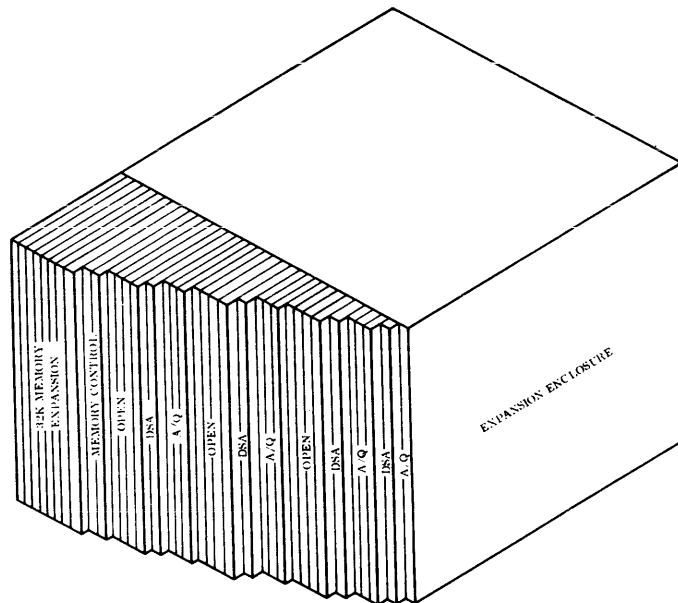

Figure 1-2. Module Allocation of Typical 1783 Expansion Enclosure
The 1783-1 is an enclosure to accommodate memory increment modules when main storage exceeds 32,768 words. It can be used for increments to either the 1784-1 or the 1784-2 Computers. The 1783-1 contains its own power supply unit. It also contains prewired slots for A/Q (10) and DSA (4) bus expansion to accommodate additional SYSTEM 17 peripheral controllers. See Figure 1-2. Programming of these controllers is identical in either enclosure.